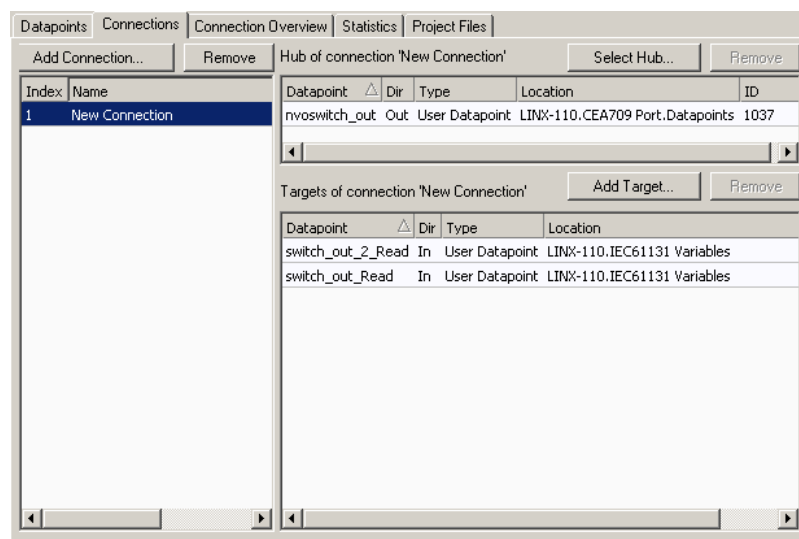

Figure 96: Connection dialog with hub and target points.
4. Now the connection dialog contains a hub and two target data point as shown in Figure 96.